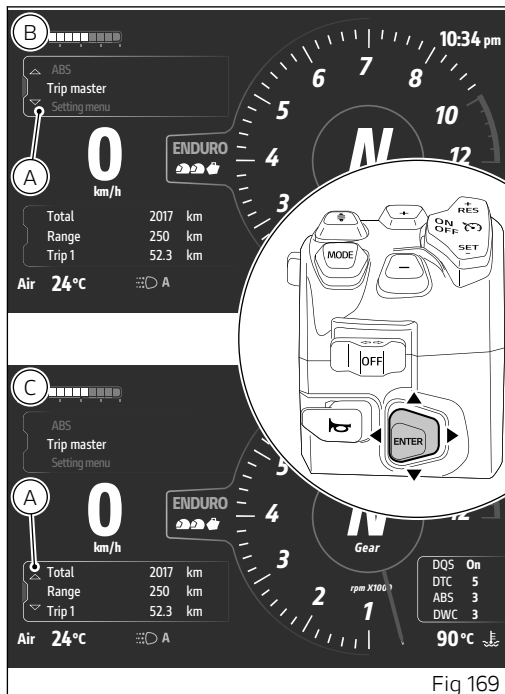

Fig 169
When one of the menus is selected, it is indicated with the active frame (A, Fig 169) and the joystick is used for menu navigation and interaction.
- if "Interactive menu" is currently selected, hold the joystick pressed in position ▼ for a long time to move the selection to "Info display" (C, Fig 169);
(B, Fig 169).